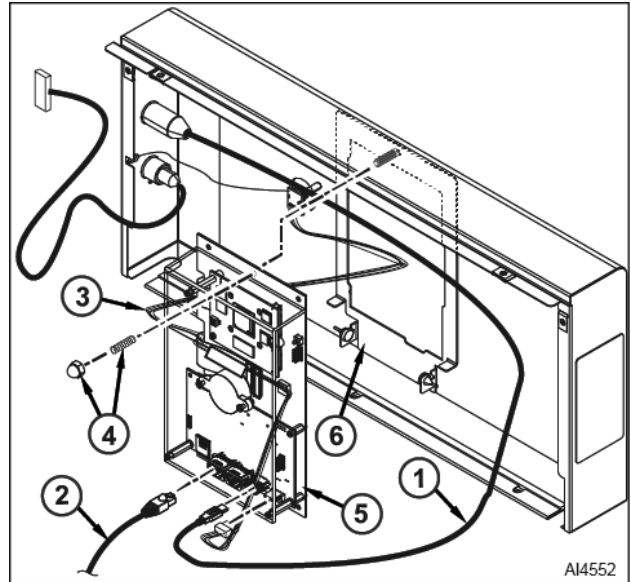

Fig. 8
3. Disconnect external USB cable (1, Fig. 8) from touch panel / display assembly.
4. Disconnect Ethernet cable (2, Fig. 8) from touch panel / display assembly.
5. Disconnect encoder cable (3, Fig. 8) from touch panel / display assembly.
6. Remove blind nut and spring (4, Fig. 8).
7. Tilt and lift touch pad / display assembly (5, Fig. 8) from bracket (6).